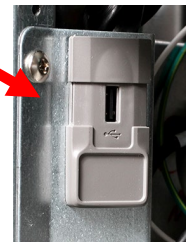

Figure 33
3. Insert the USB drive from the previous step, with the compressed zip folder fqlink_config_aws.zip with fryer.conf file (for AWS cloud) **OR** fqlink_config_generic.zip with fryer.conf file (for generic cloud), into the USB port on the **FAR-LEFT** side of the fryer, just inside the left fryer door (see Figure 33).